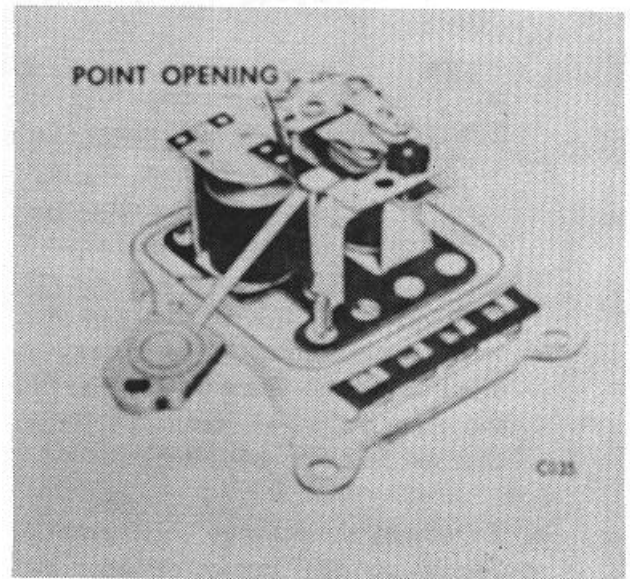

Figure 26.
2. Point Opening: Measure the opening between the points, and adjust by bending the armature stop. (Fig. 26)